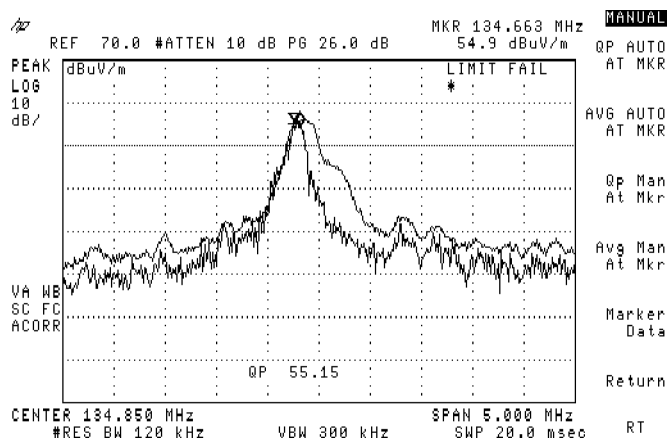

Figure 3-63. Signal after Quasi-Peak Measurement
16. Read the amplitude level at the bottom of the display screen. In our example, the display shows **55.15 dB μ V/m**. See Figure 3-63.